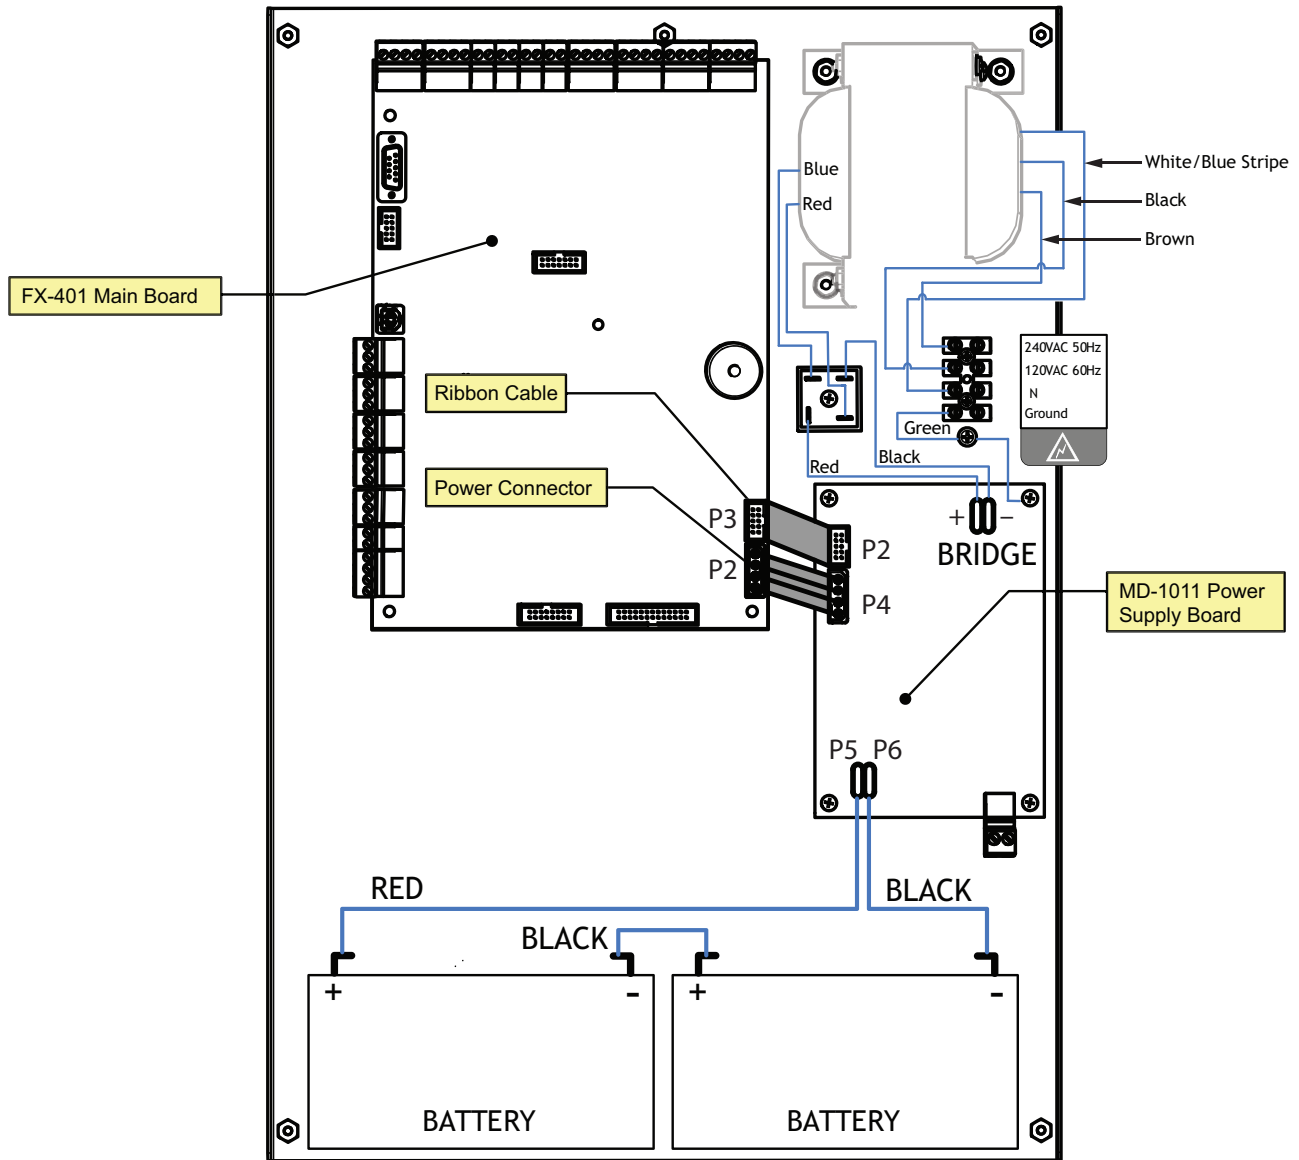

Figure 26 Main Power Supply Wiring and Connections
Wire the Power Supply as shown in Figure 26 and adhere to the following:
- Wire the AC power to the AC wiring terminals as shown in Figure 26 using the proper wire gauge with 600 volt insulation and proper over current circuit protection that complies with local codes.